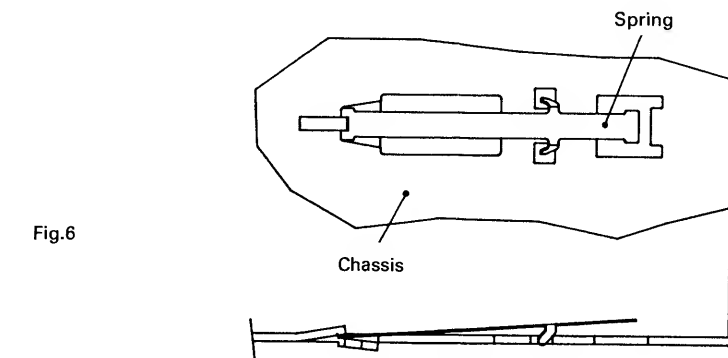

Fig.6
1. Place the spring onto the chassis as show in Fig.6.
1. Fig. 6 に示す様スプリングをシャーシに置く。